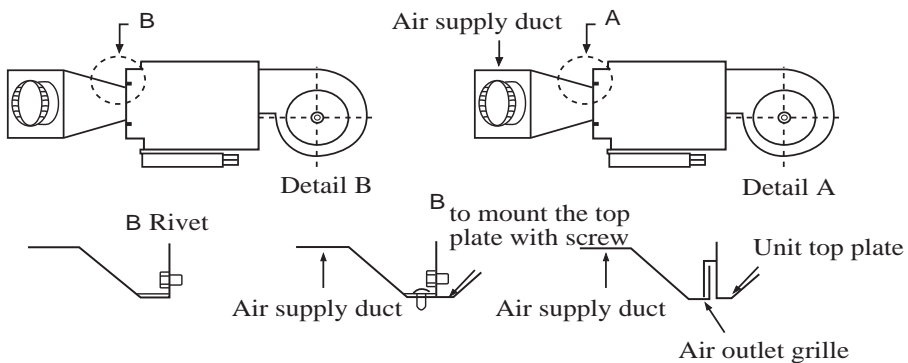

Figure 6
3. Mount the unit on a strong and horizontal building roof. If the base is not firm, it will cause noise, vibration or leakage (see Figure 6).